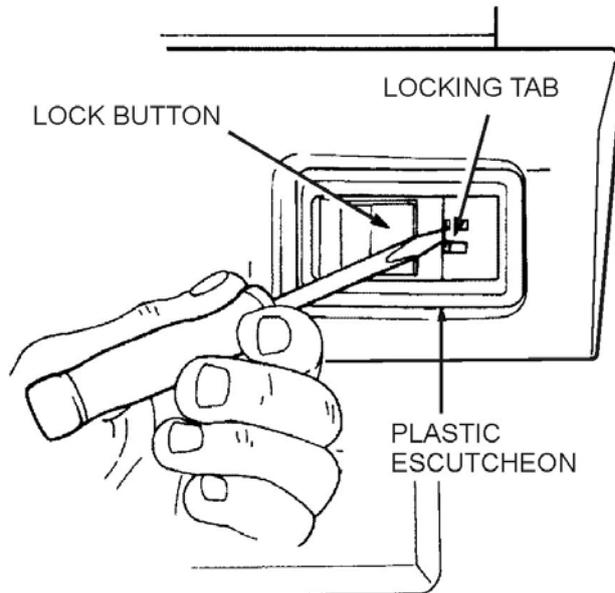

Figure 212 Door Lock Button Escutcheon Removal
- g. Remove the plastic escutcheon from the lock button by depressing the locking tab with a small screwdriver (Figure 212).
- h. Remove the screws securing the interior lock handle bezel (Figure 212).
- x.** Fit the lock button plastic escutcheon (Figure 212).